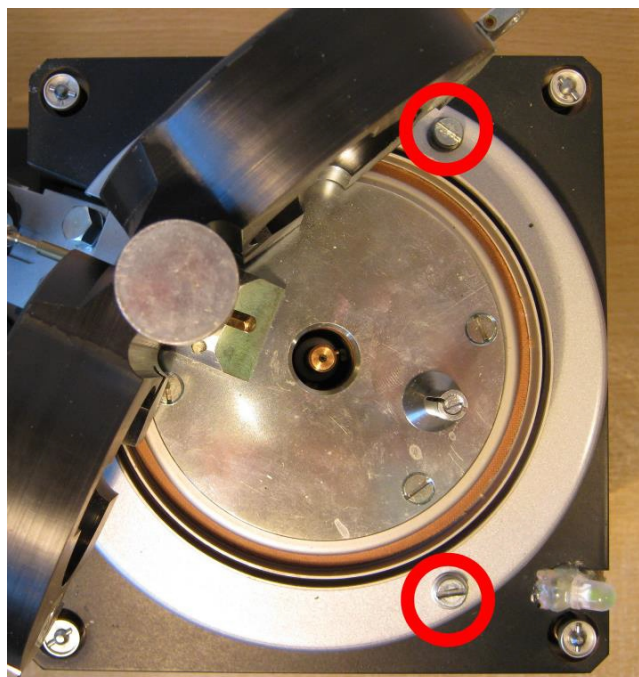

Figure 10: Screws for setting of main shaft
5. Loose three screws marked by the red circles (only two of them are marked in Fig. 10) and move entire coil system to get the main shaft in the center of the hole.